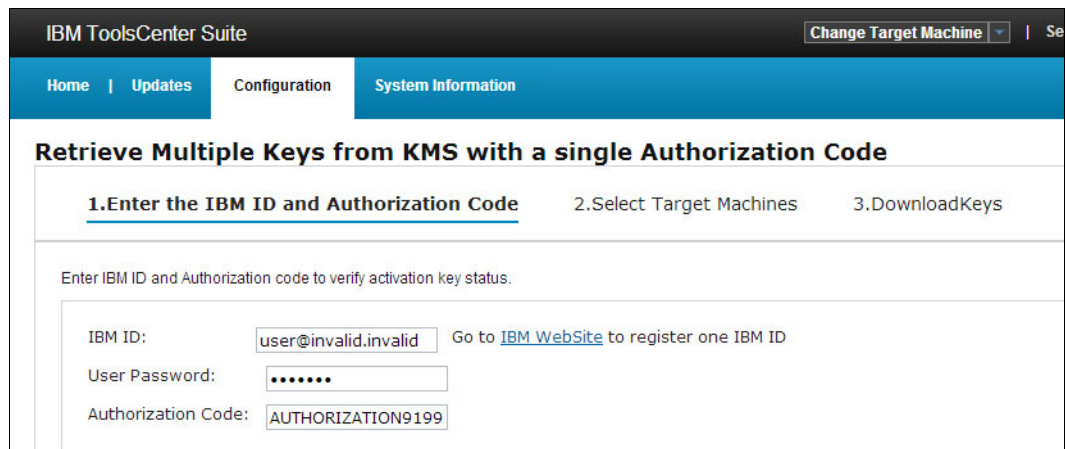

Figure 3-57 Retrieve multiple keys with one Authorization Code
- As shown in Figure 3-57, we see an example of retrieving keys from Key Management System (KMS) by using one Authorization code. Enter the IBM ID, User Password, and Authorization Code. Click **Next**.